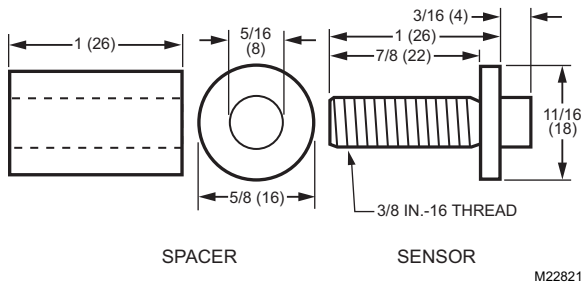

**Fig. 1. C7041B,C dimensions in in. (mm).**
**Dimensions:** See Fig. 1 through 9.